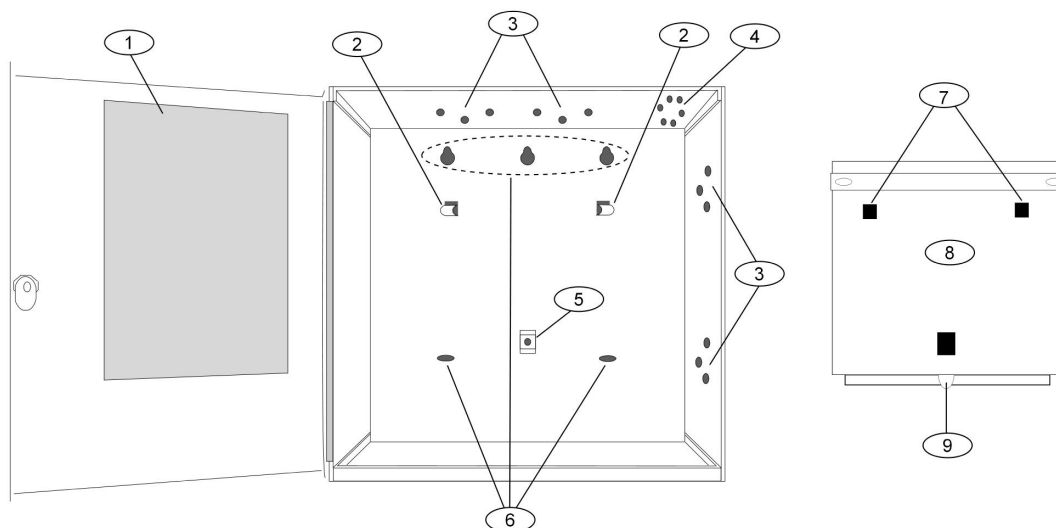

Figure 2.1: Enclosure Mounting
1. Place the control panel over the inside back of the enclosure, aligning the large rectangular openings of the mounting skirt with the mounting hooks of the enclosure. Slide the control panel down so that it hangs on the hooks. Refer to *Figure 2.1*.